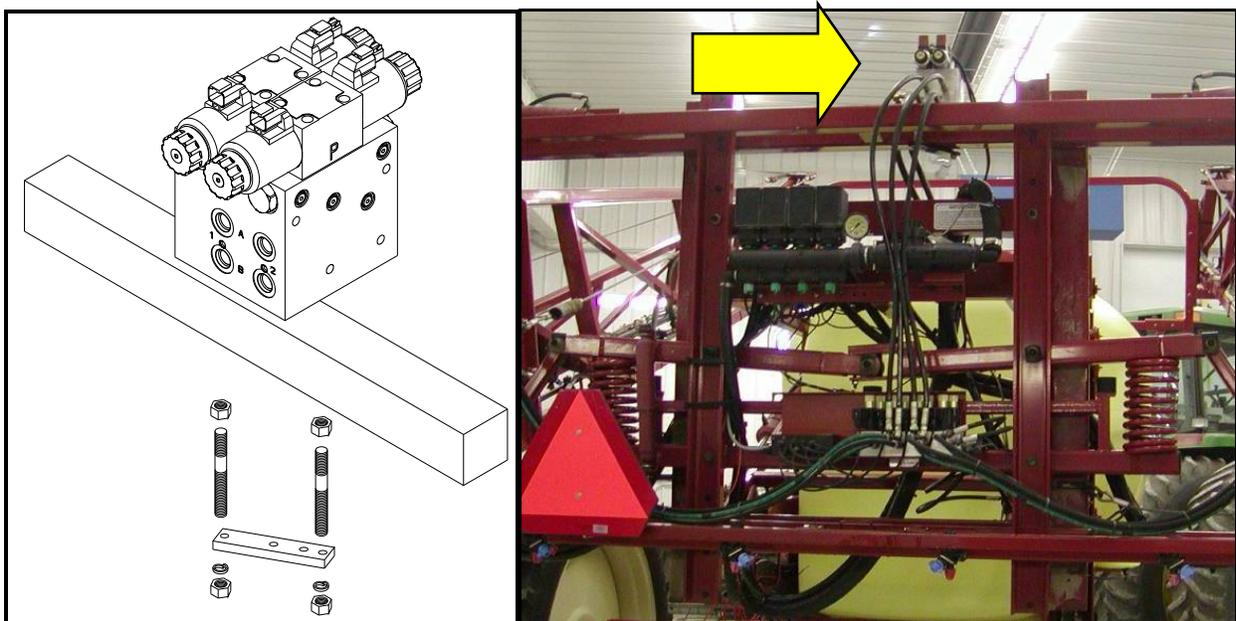

Figure 37: Valve Block Mounting
1. A suitable mounting location for the valve block is illustrated in **Figure 37**.